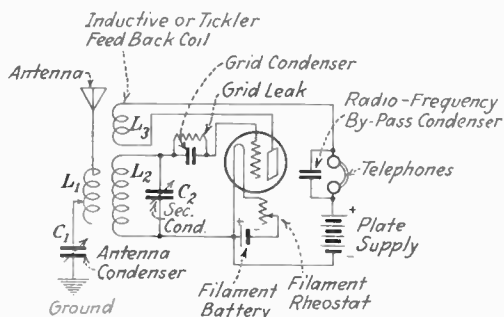

FIG. 46.—Wiring diagram of regenerative receiver.
Figure 46 illustrates a typical regenerative circuit in which the coil  $L_3$  is used to feed back the signal radiofrequency variations in the plate circuit to the grid to produce an increased signal variation and, consequently, a louder signal response in the telephones.
*Ans.* A variable condenser may be used as a short-wave condenser in series with the antenna circuit and across the secondary of the receiving tuner (see Fig. 46). In this latter position it improves the selectivity of the receiver as a whole. This is due to the necessity for making the inductance in the circuit adjustable in fixed steps. In order to tune closely to a given wave length it is necessary to have a continuously variable oscillatory circuit. In practice it is found necessary to increase